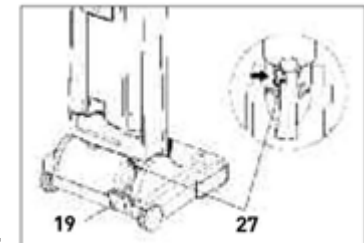

Figure 3
Operating the Machine - Figure 3 When the machine is switched on with the handle in the upright locked position, the power head and brush automatically rise from the carpet. To release the machine from the upright locked position, press down on the foot pedal (19) and lower the handle into the normal operating position. The power head and brush will automatically lower to the appropriate height.